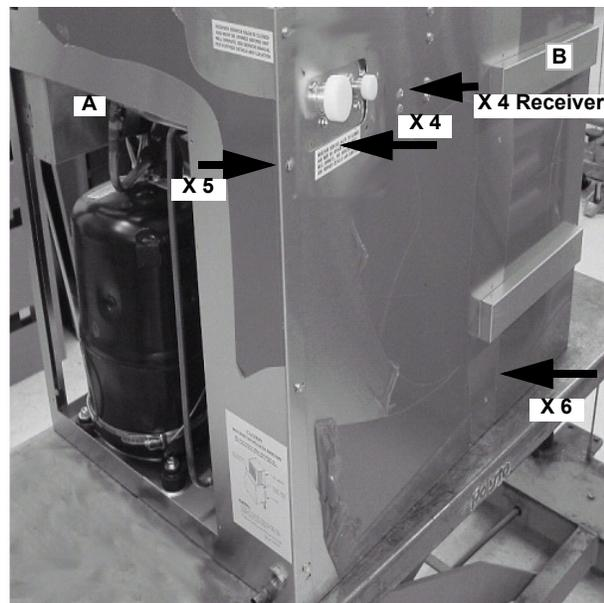

Figure 49.
Replace the evaporator line covers (B) with 1 hex head screw each (Figure 49).